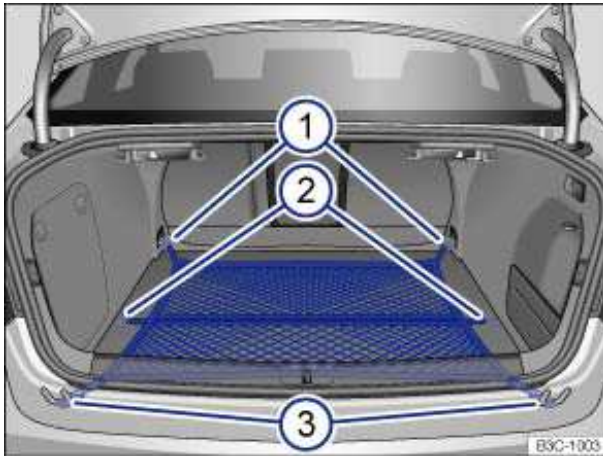

Fig. 93 In the luggage compartment: Luggage net hung horizontally.
- First, secure the luggage net hooks ⇒ fig. 93 \(1\) to the tie-downs on the rear seat backrest (1) ⇒ ⚠. The luggage net zipper must face upwards.
- Then secure the luggage net hooks (3) to the tie-downs on the loading edge (3) of the luggage compartment.